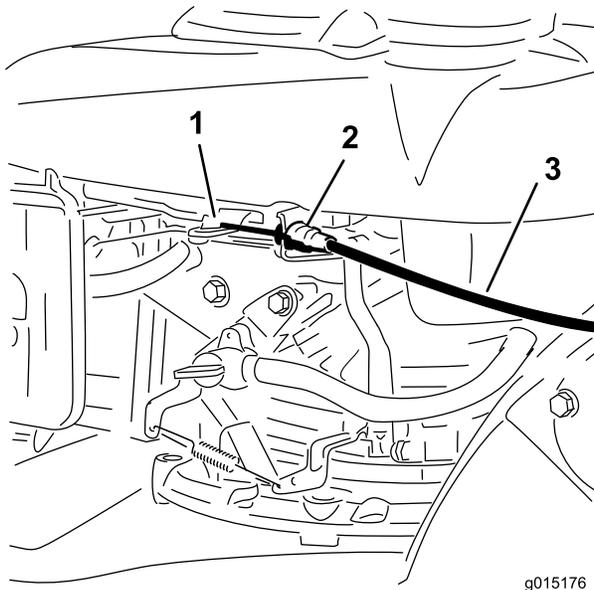

Figure 6
3. Route the blade brake cable down the inside of the handle and attach the cable end (Figure 6).